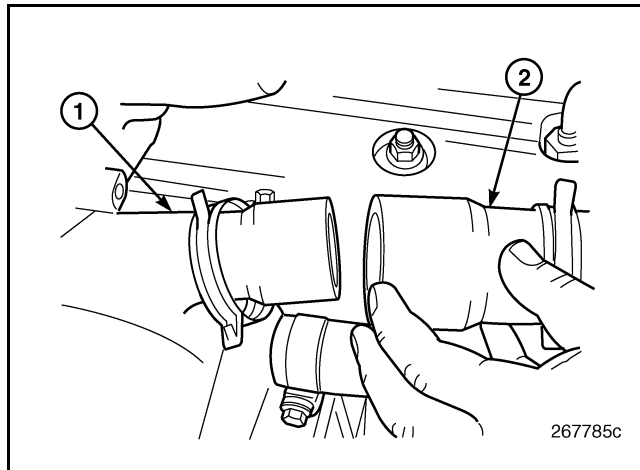

Figure 494 — Cool Tube-to-Cooler Connection
3. Loosen and remove the cool tube coupling hose clamp at the EGR cooler gas outlet port (Figure 494).